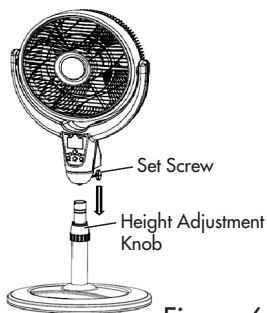

Figure 6.
6. Remove the set screw near the bottom of the fan assembly, and slide the fan assembly onto the inner pole until it rests on the top of the pole, and then tighten back the set screw. (Figure 6)